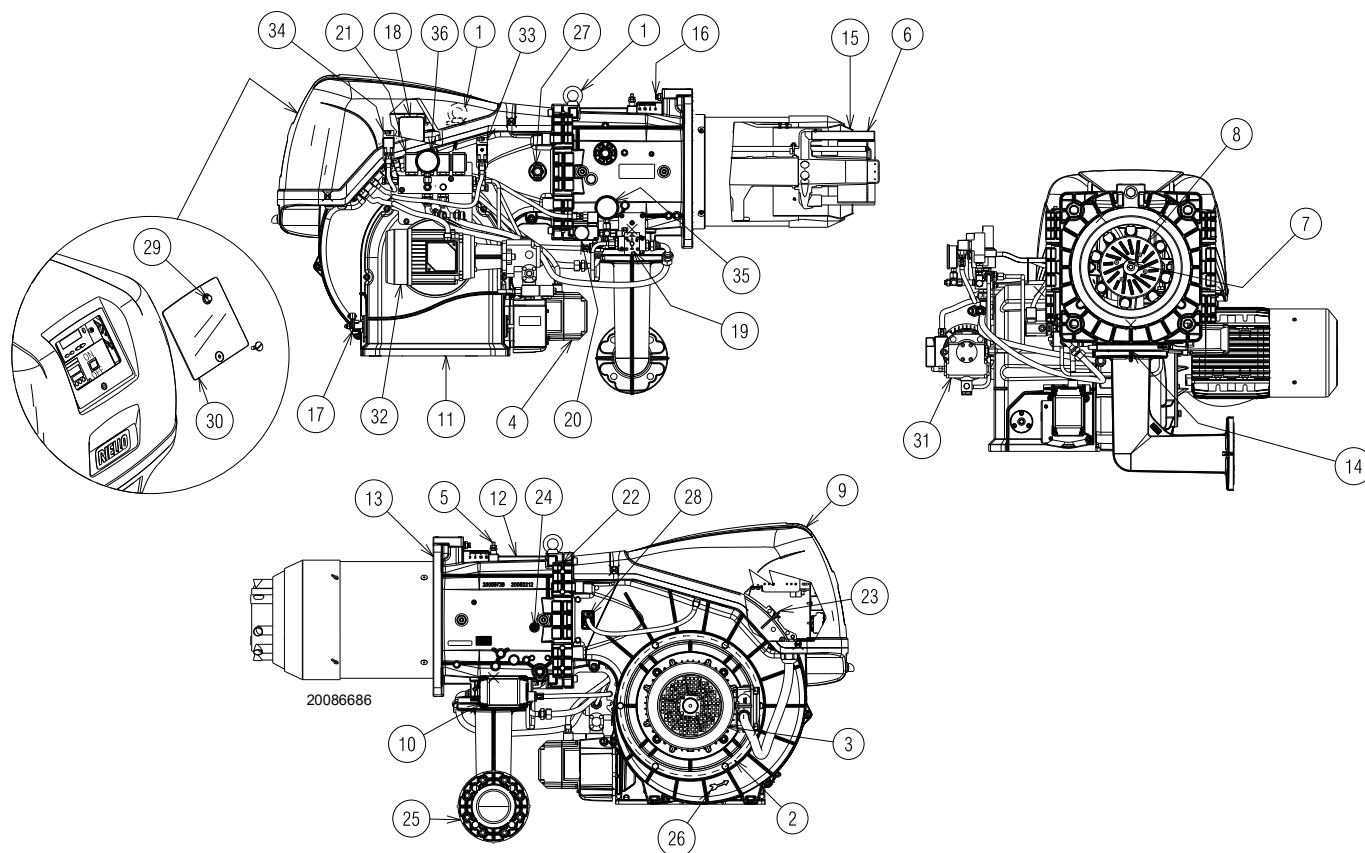

Fig. 4
- (1) Reference conditions: Ambient temperature 20°C - Gas temperature 15°C - Barometric pressure 1013 mbar - Altitude 0 m a.s.l.
(2) Pressure at the test point of the pressure switch 5)(Fig. 4 on page 13) with zero pressure in the combustion chamber and at maximum burner output.
(3) Sound pressure measured in manufacturer's combustion laboratory, with burner operating on test boiler and at maximum rated output. The sound power is measured with the "Free Field" method, as per EN 15036, and according to an accurate "Accuracy: Category 3", as described by EN ISO 3746".